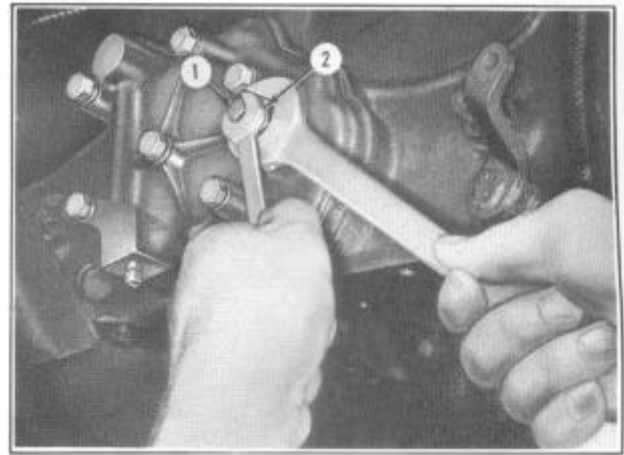

FIGURE 73
3. Hold the low band adjusting screw (1), Figure 73, loosen and remove lock nut (2).